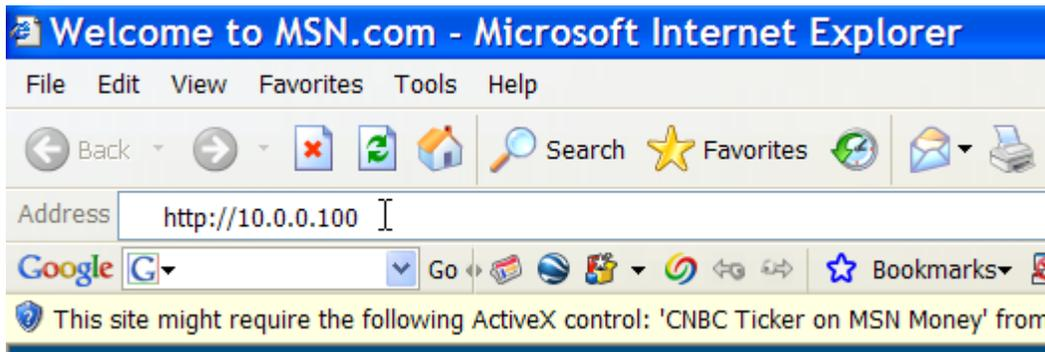
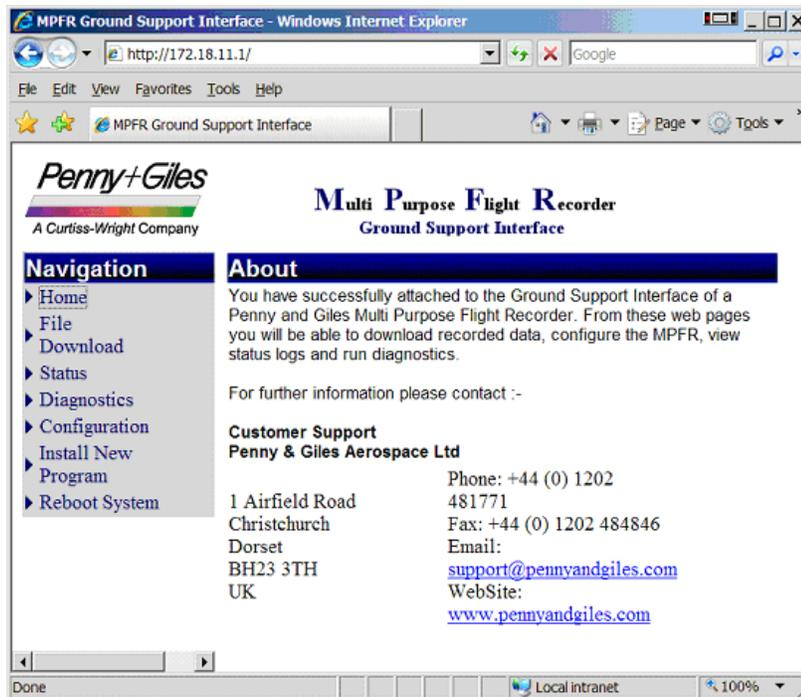

Figure 8. Connecting To The CVFDR
Figure 9. CVFDR Interface
- (10) Click the **Close** button on the Local Area Connection Properties window.
- (11) Close the Internet Connections window.
- (12) Open an Internet Explorer window on the host PC.
- (13) In the Address Bar of the Internet Explorer window, type the following address: **10.0.0.100** then press the **ENTER** key (Figure 8).
- (14) Once communication with the CVFDR is established, the Crash Survivable Memory Unit Ground Support Interface will be displayed.
- (15) From the Navigation panel, click the **File Download** option (Figure 9).